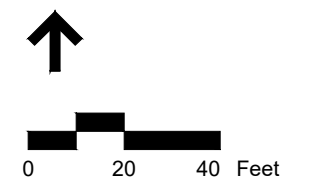

Figure 3
For the proposed conditions, hydrologic analysis, the site was divided into six (6) drainage areas (see Figure 3). These areas discharge to the design point where peak discharge rate were evaluated for both existing and proposed conditions.